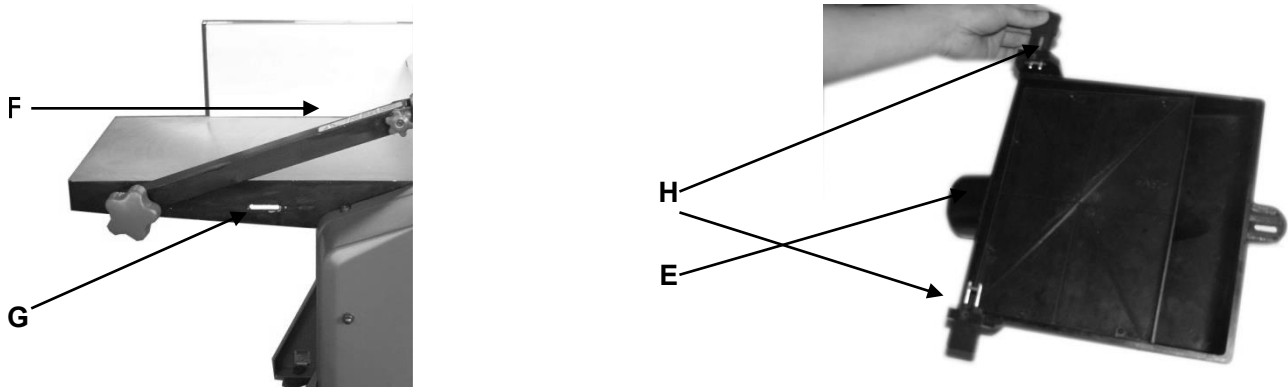

Figure 6
- The dust chute E is so positioned that both keys H are in line with the longitude holes G. Then push both keys H into the longitude holes G. (refer to Fig. 6)
- The dust chute E is so positioned that both keys H are in line with the longitude holes G. Then push both keys H into the longitude holes G (See Figure 6).